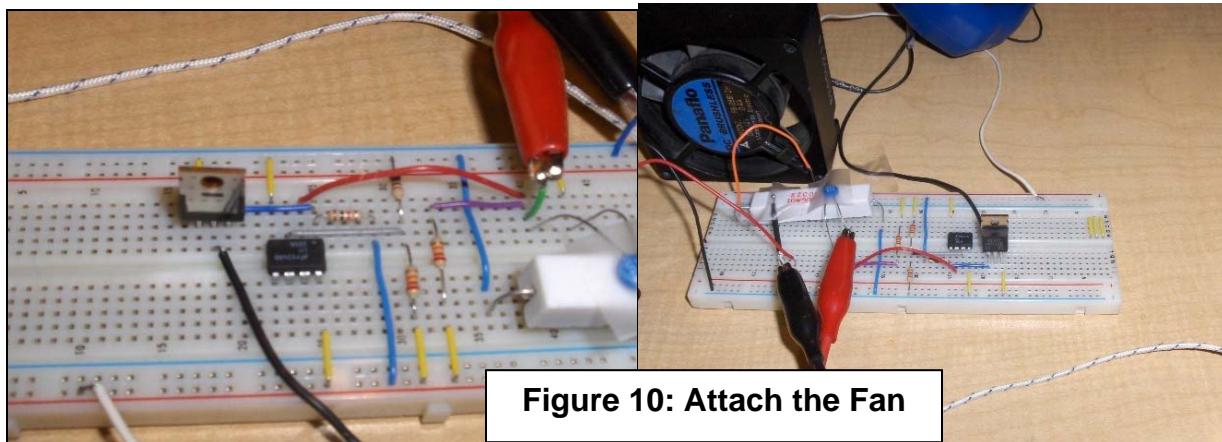

Figure 10: Attach the Fan
- Attach the DC fan (Positive lead to 12V, and Negative to **Pin D** of the power driver), as shown in figure 10.